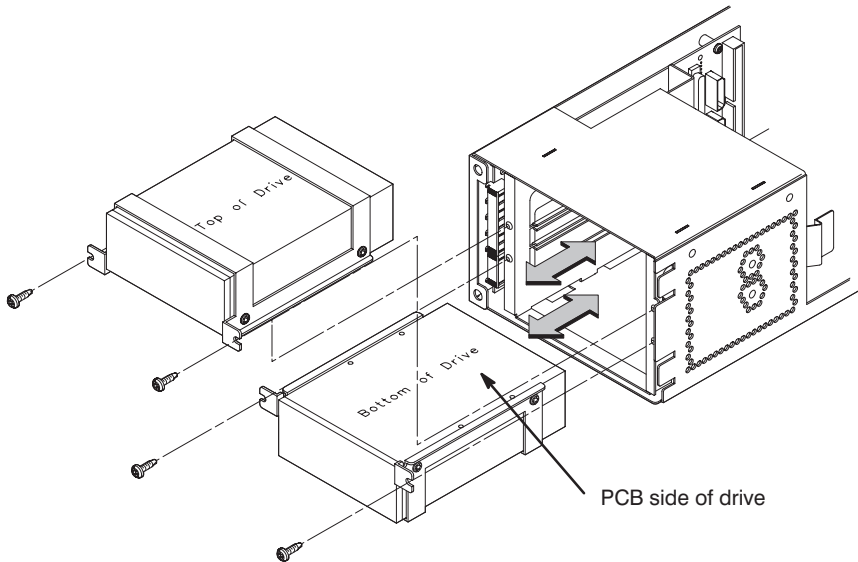

Figure 5-49. Removing the Drives from the Storage Assembly
6. Remove the two screws holding the drive mounting bracket in place and slide the drive and bracket out. See Figure 5-49.